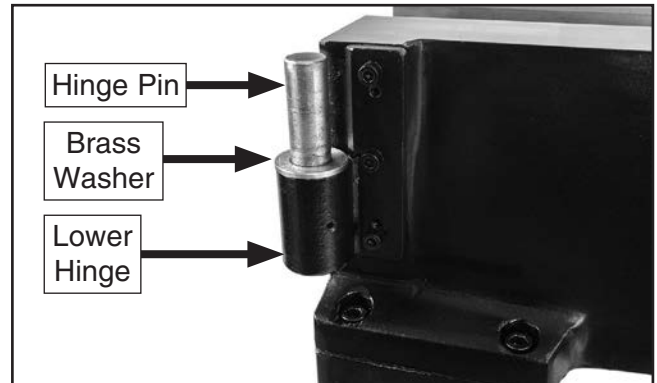
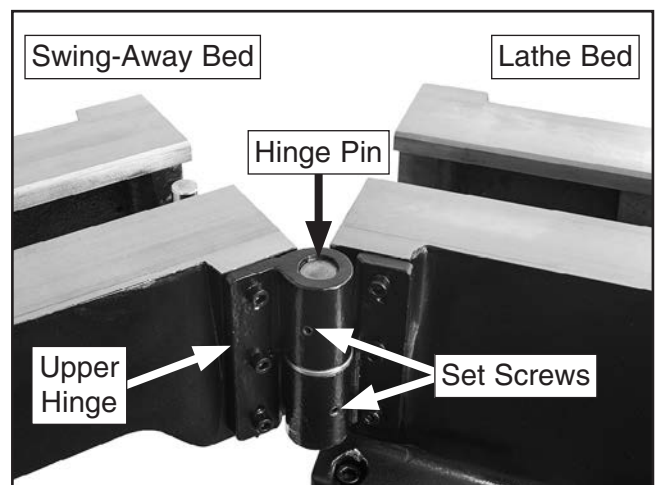

Figure 25. Lower hinge, hinge pin, and brass washer for mounting swing-away bed.
Figure 26. Swing-away bed hinge assembled.
21. Locate pre-installed lower hinge, hinge pin, and brass washer (see **Figure 25**) at end of lathe bed. Mount swing-away bed by lowering upper hinge onto hinge pin (see **Figure 26**). Leave M6-1 x 10 set screws loose for now.